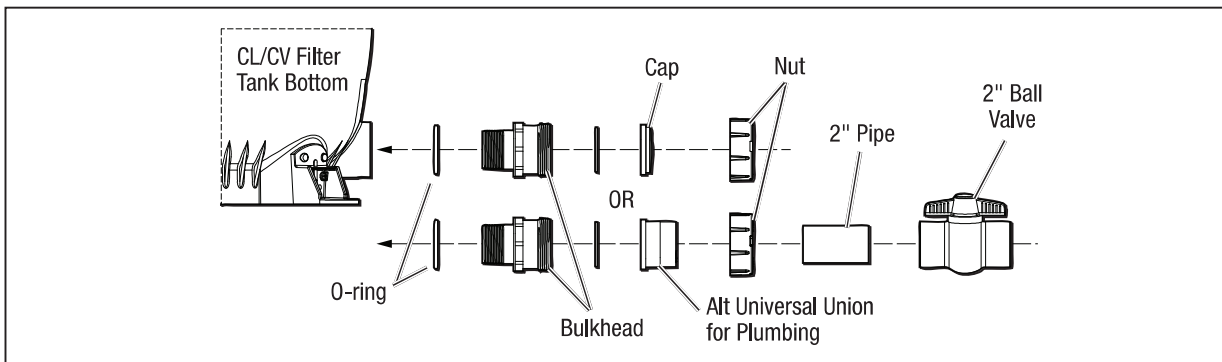

Figure 6. Jandy Pro CL and CV Series Cartridge Filter Drain Configurations
9. Connect the pipes using the unions supplied with the filter. *Do not use Teflon tape or pipe dope on any unions.* Assemble the unions dry and hand tighten. See Figure 6.
10. If desired, the CV filter drain can be plumbed using a Jandy Pro universal union. The plumbing must contain a ball valve as shown in Figure 6.